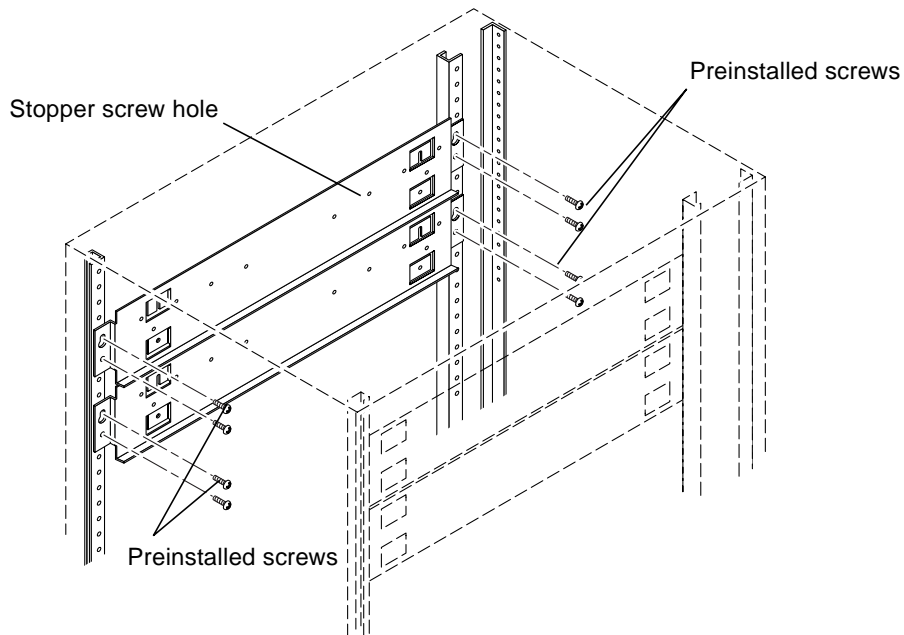

FIGURE 3-3 Installing the rails for a 16-port Sun StorEdge network FC switch-16 Switch
The procedure for installing the mounting rails in an expansion cabinet for a Sun StorEdge network FC switch-16 switch is different from that of the 8-port switch. See FIGURE 3-3.
1. Loosely start two stopper screws into each rail before you install the rails into the cabinet (see FIGURE 3-3).
2. Working from the rear of the cabinet, loosely start two screws into the cabinet for each mounting rail, one at each end (see FIGURE 3-3).